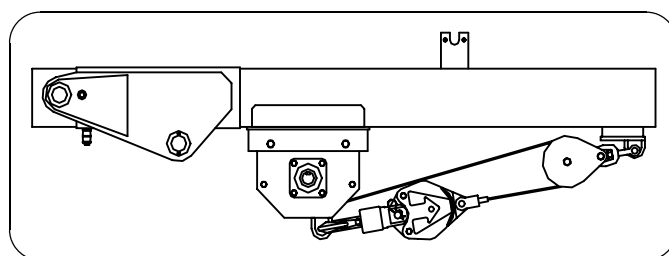

fig. 2
- 7) After completing lifting operations, retract all boom extensions, attach hoist hook to dead-man, (see fig.2 below) hoist up to remove slack from load line. To stow crane follow all knuckleboom operating instructions.